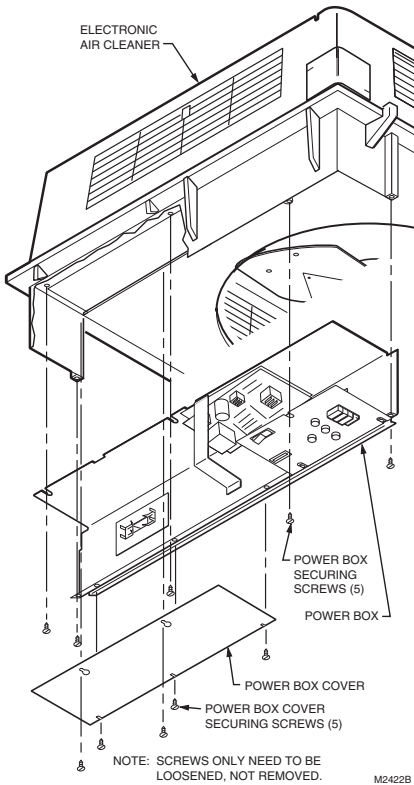

Fig. 6. Removing F90A Power Supply Assembly.
- Loosen the screws holding the power supply assembly cover plate and remove the cover plate. See Fig. 6.
- Loosen the two screws on the inner wall of the power supply assembly and three screws on the top of the assembly. Slide the power supply assembly toward the center of the air cleaner and disconnect the two Molex connectors and the one quick connect connector. See Fig. 6.